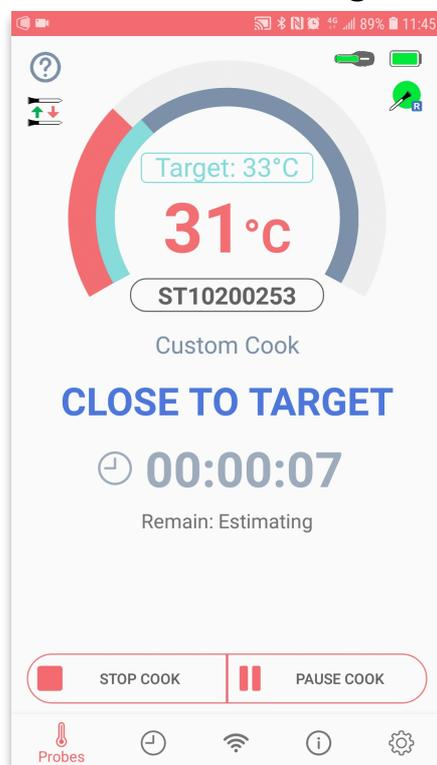

Figure 9. Close to Target
11. When the temperature is close to the target, you will receive an alert and the corresponding message will be shown as in Figure 9. Please start get close to the oven.